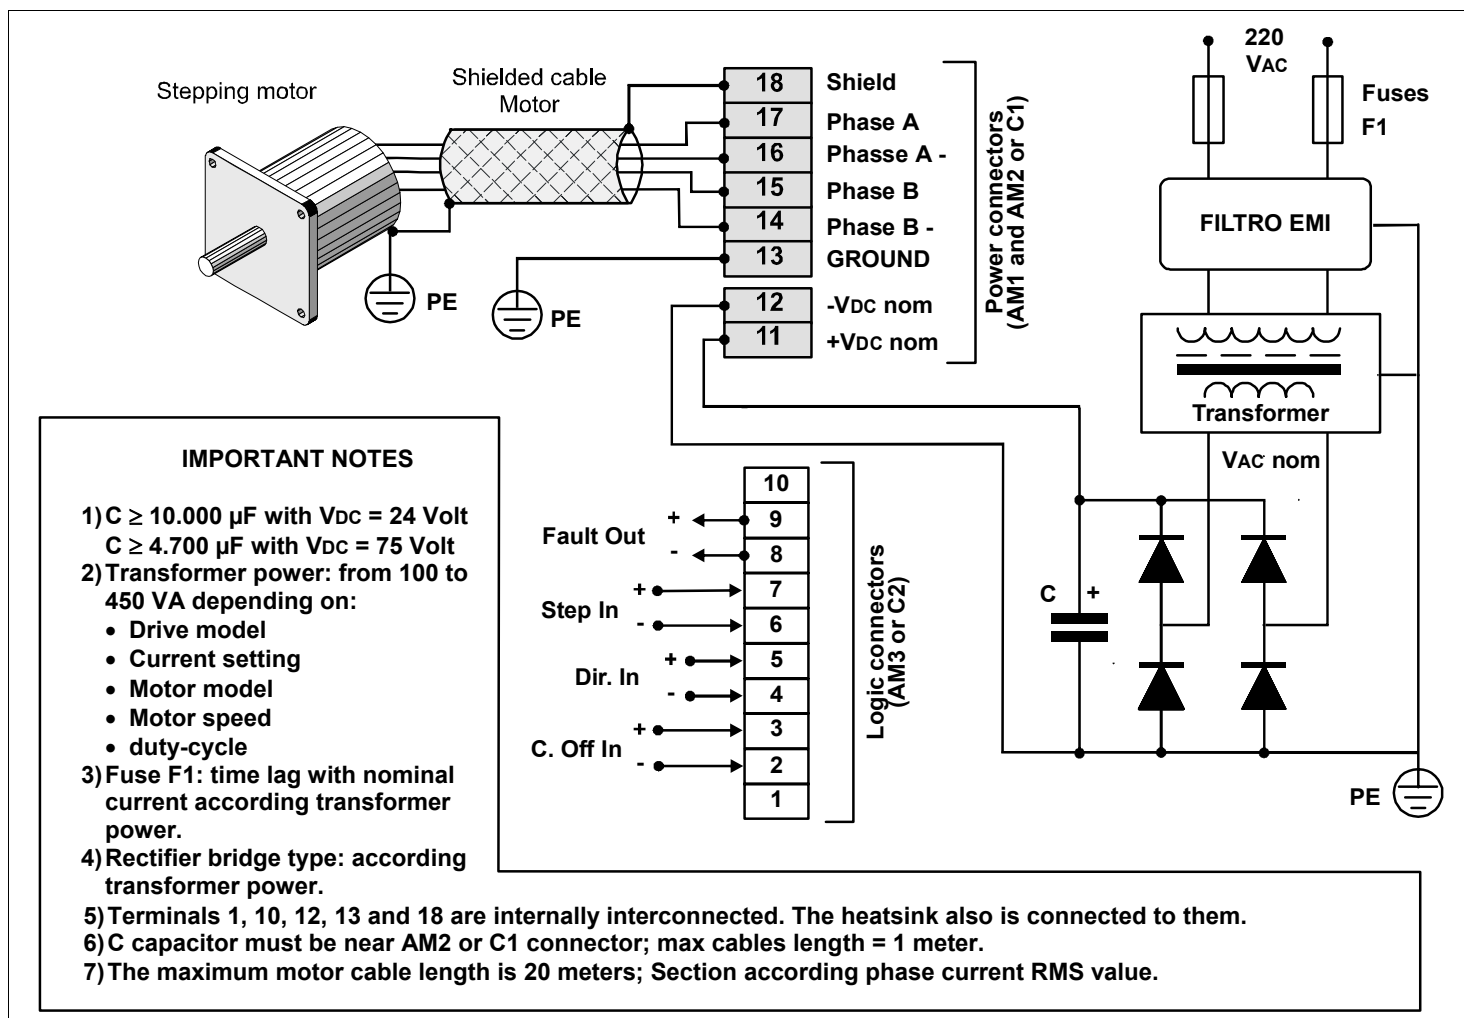

Fig. 7
Drive and all related cabling are source of E.M. interference (conducted and radiated). In order to comply to EEC directive 89/336 and related standards (EN61800-3) installation has to be done according to schematics in Fig 7 and following indications:
- Connection made to Protective Earth terminal (PE), shown in Fig.7, must be short and have the lowest possible inductance.